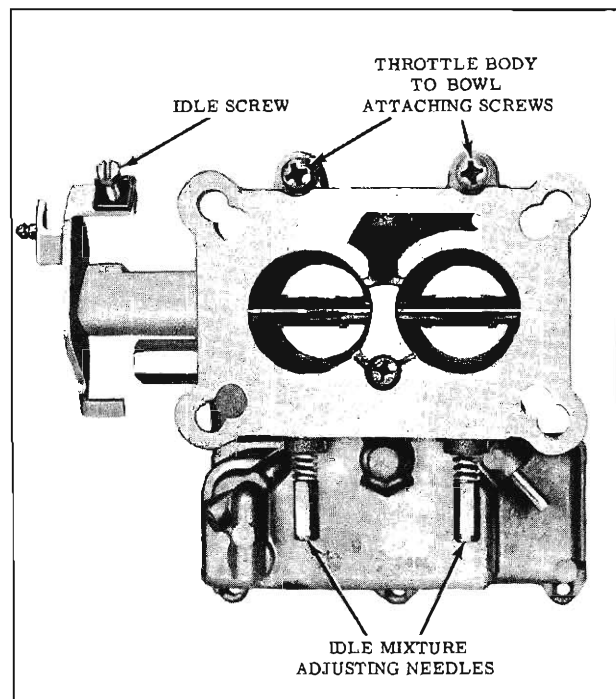

Fig. 4-137 Throttle Body
1. Invert float bowl and remove three throttle body attaching screws, then remove the throttle body and gasket. (Fig. 4-137)
- If removed, install the idle speed screw. (Fig. 4-137)